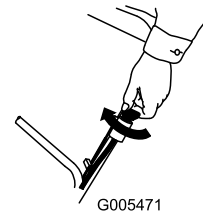
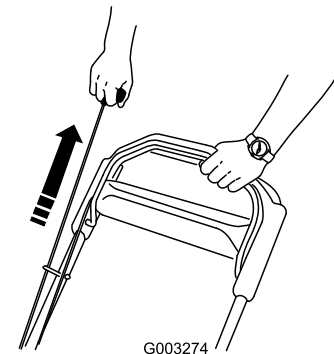

Figure 14
Figure 15
2. Turn the ignition key (model 20796 only) (Figure 14) or pull the recoil start handle (Figure 15).